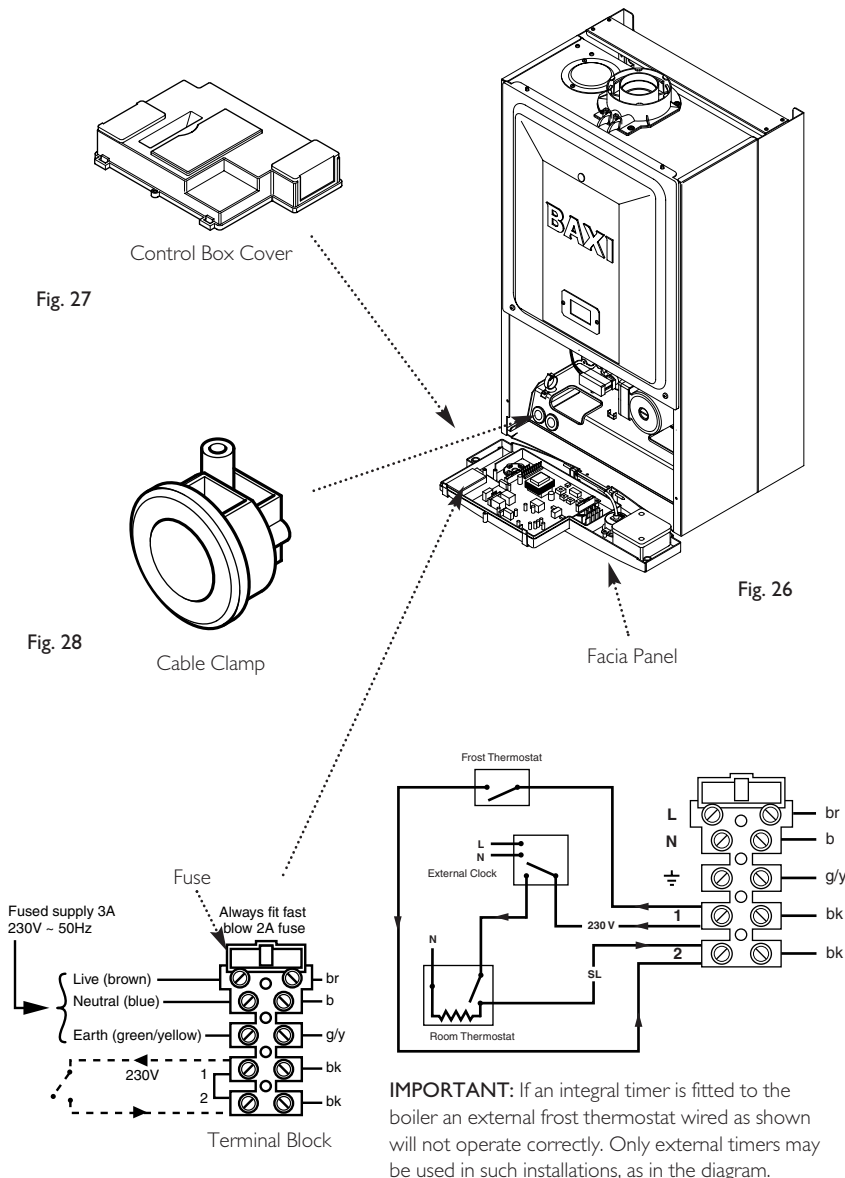

Fig. 29
7. To connect external control(s) remove the link between terminals 1 & 2. The 230V supply at terminal 1 must be connected to the external control. The switched output from the external control must be connected to terminal 2. (Fig. 29).
NOTE: If the room thermostat being used incorporates an anticipator it **MUST** be wired as shown in Fig. 29